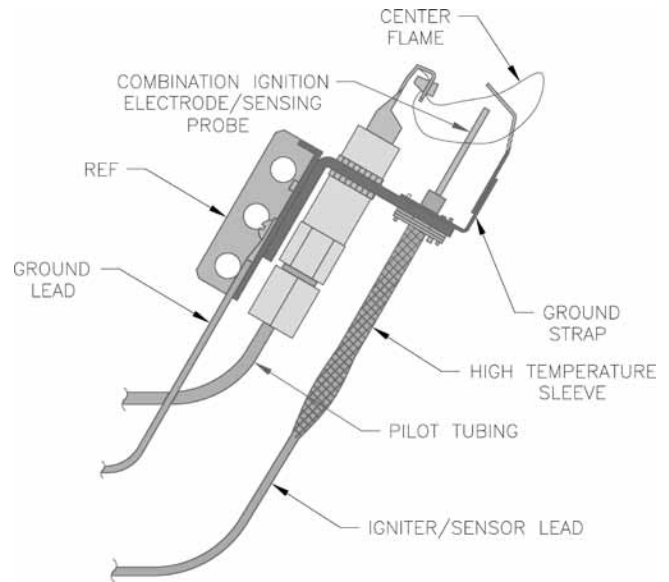

Figure 19: Pilot Burner Flame
1. See Figure 19. The pilot burner should be lit only if thermostat is calling for heat. The pilot burner produces three (3) flames. The center flame should be steady, medium hard blue enveloping 3/8 to 1/2 inch of thermocouple.